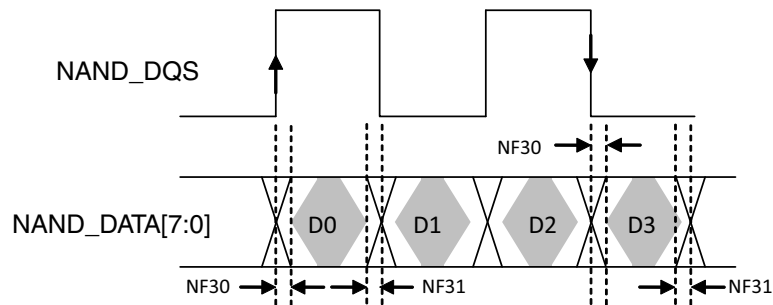

Figure 33. NAND_DQS/NAND_DQ Read Valid Window
For DDR Source sync mode, Figure 33 shows the timing diagram of NAND_DQS/NAND_DATA_{Axx} read valid window. The typical value of tDQSS is 0.85ns (max) and 1ns (max) for tQHS at 200MB/s. GPMI will sample NAND_DATA[7:0] at both rising and falling edge of a delayed NAND_DQS signal, which can be provided by an internal DPLL. The delay value can be controlled by GPMI register GPMI_READ_DDR_DLL_CTRL.SLV_DLY_TARGET (see the GPMI chapter of the i.MX 6Solo/6DualLite reference manual). Generally, the typical delay value of this register is equal to 0x7 which means 1/4 clock cycle delay expected. But if the board delay is big enough and cannot be ignored, the delay value should be made larger to compensate the board delay.
- ⁷ Shown in Figure 33, NAND_DQS/NAND_DQ Read Valid Window.
For DDR Toggle mode, Figure 33 shows the timing diagram of NAND_DQS/NAND_DATA_{xx} read valid window. The typical value of tDQSQ is 1.4 ns (max) and 1.4 ns (max) for tQHS at 133 MB/s. GPMI will sample NAND_DATA[7:0] at both rising and falling edge of an delayed NAND_DQS signal, which is provided by an internal DPLL. The delay value of this register can be controlled by GPMI register GPMI_READ_DDR_DLL_CTRL.SLV_DLY_TARGET (see the GPMI chapter of the i.MX 6Solo/6DualLite reference manual). Generally, the typical delay value is equal to 0x7 which means 1/4 clock cycle delay expected. But if the board delay is big enough and cannot be ignored, the delay value should be made larger to compensate the board delay.